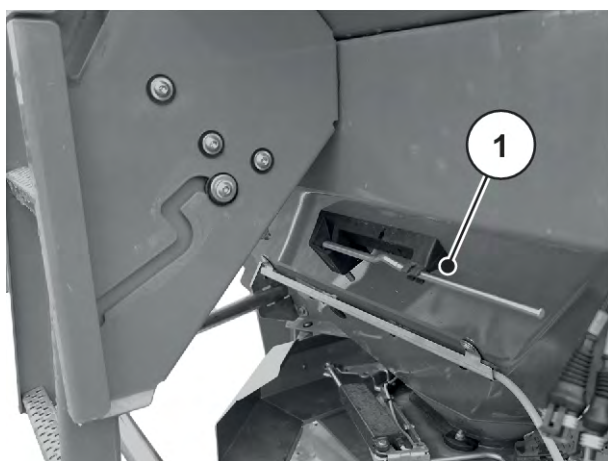

Fig. 27: Position of the adjustment lever AXIS xx.2
- ▶ Put the adjustment lever back into the designated bracket. See *Fig. 27 Position of the adjustment lever AXIS xx.2*